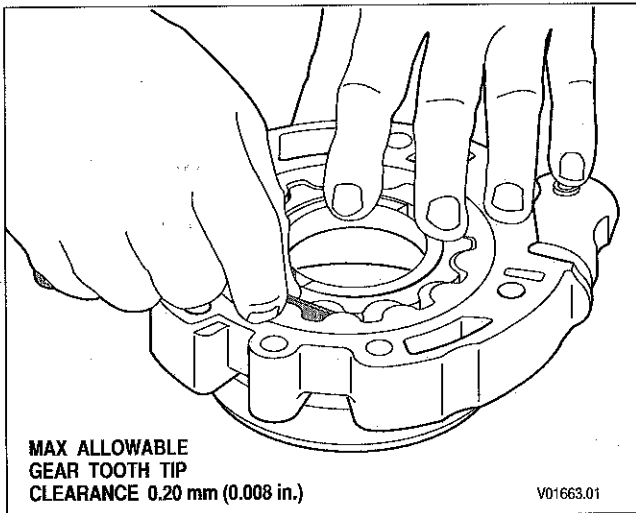

Figure 5-6. Measuring Gear Tooth Tip Clearance In The Pump Housing
17. Measure gear tooth tip clearance (Figure 5-6). Maximum allowable clearance is 0.20 mm (0.008 inch).